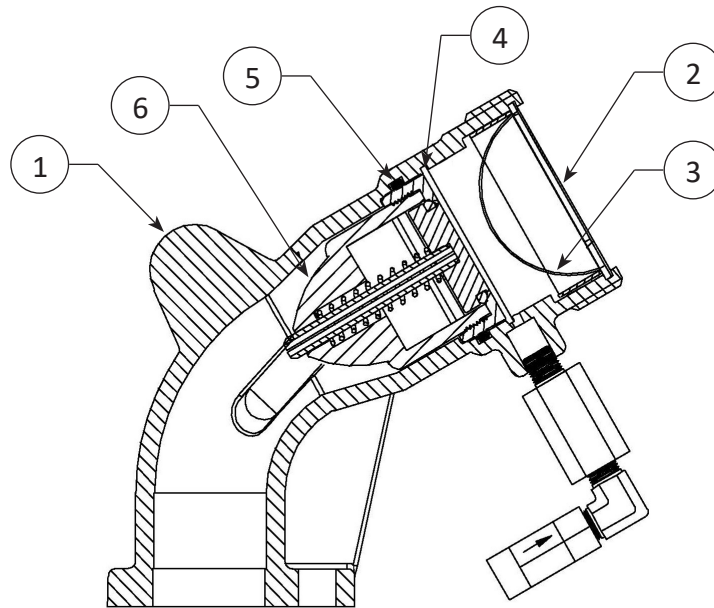

Figure 1
As part of the disassembly process, it will be necessary to return the return spout assembly. This can be accomplished by removing (3) bolts at the base of the return spout body (Item 1) and remove the air line to the blow down device. Using the appropriate retaining ring pliers, remove the screen retaining ring (Item 2) from the body. Remove the screen (Item 3). Remove the check valve retaining ring (Item 4) with pliers. Remove the check valve assembly (Item 6). It may be necessary to push the poppet of the check valve open and pull on the inside of the brass seat to remove. Remove and replace the check valve mounting o-ring (Item 5). See figure 1.